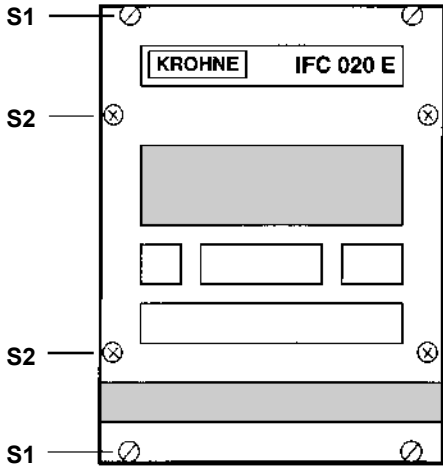

Fig. 1
- b) Unscrew the 4 recessed head screws (S1) on the front plate (see Sect. 8.1, Fig. 1).
Refer to Sect. 8.1 for Figs. 1 and 2.
- 1) Unscrew the 4 recessed head screws (**S1**), on the front (Fig. 1).
Refer to Sect. 8.1 for Figs. 1 to 3.
- 1) Unscrew the 4 screws (S1), on the front (**Fig. 1**).
- 3) Unscrew the 4 recessed head screws (S2) on the front (**Fig. 1**).
- 1) Unscrew the 4 recessed head screws (S1), on the front (**Fig. 1**).
- 3) Unscrew the 4 recessed head screws (S2) on the front (**Fig.1**).